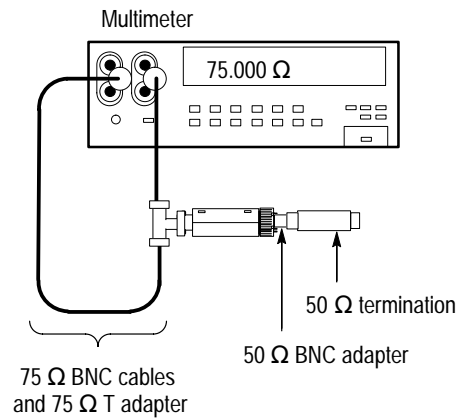

Figure 5: Test setup for input impedance
1. Connect the AMT75 adapter as shown in Figure 5.